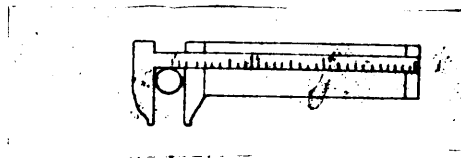
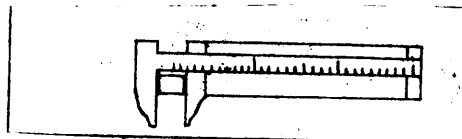

Figure 11.
Figure 12.
1. Caliper rule is one of the best ways of measuring the thickness of stock. (Figure 11) This shows the round stock. Figure 12 shows square stock. Any shape of stock may be measured with this rule.